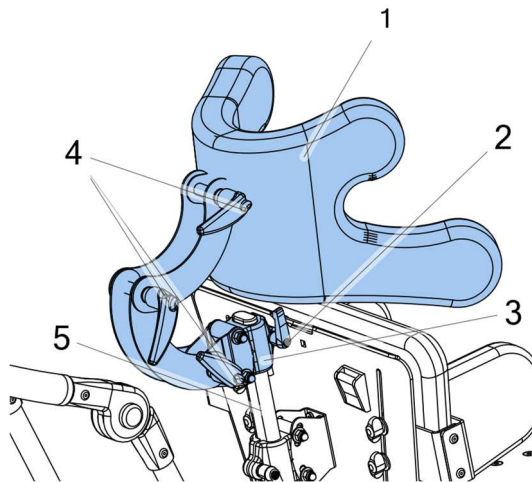

Fig. 11
Headrest assembly (1) Fig. 11:
- loosen the knob (2),
- insert the headrest fixing bracket (3) onto the backrest profile (5),
- tighten the knob (2).